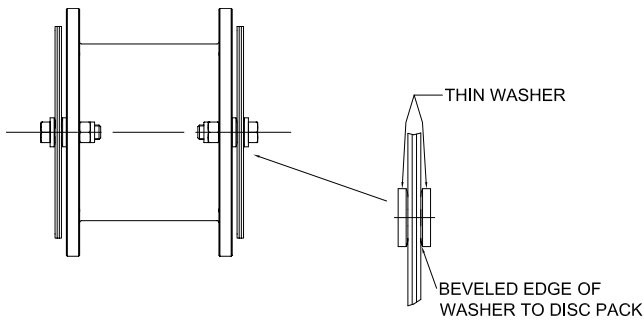

FIGURE 2
4. Assemble the blade packs to the spacer as shown in Figure 2. Tighten these nuts to the proper torques as indicated in Table 2 .
7. With equipment aligned and coupling assembled make sure all bolts and washers are in the proper orientation. The Curved face of the washer must face the blade pack as shown in Figure 2.